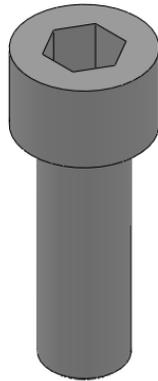
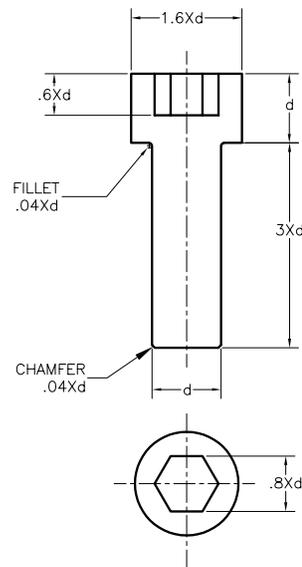
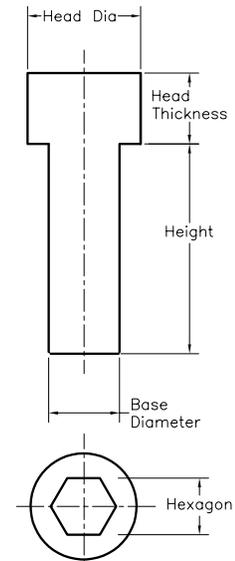

Figure 19-43 Socket Head Screw
Figure 19-44 Parameters of the Socket Head Screw
Figure 19-45 The names of dimensions
In this tutorial, you will create the Socket Head Screw shown in Figure 19-43. Assume the base diameter of the screw d as 30 mm. Add equations to the model, as shown in Figure 19-44. Then, create different configurations by changing the base diameter to 20 mm, 50 mm, 40 mm, and 5 mm and the other related parameters with respect to the relations given in Figure 19-44.
2. Dimension the sketch based on the relations given in Figure 19-44. While placing the dimensions, you need to change the name of the dimensions in the **Primary Value** rollout of the **Dimension PropertyManager**. Refer to Figure 19-45 for the names of dimensions.
4. Draw a hexagon on the top face of the base feature and dimension it. Change the name of the dimension, as shown in Figure 19-45.
- Enter the dimensions for the new instances with respect to the equations shown in Figure 19-44. The excel sheet after adding the dimensions is shown in Figure 19-47.
- Add equations to the fillet and chamfer dimensions using the **Equations** dialog box, as specified in Figure 19-44.